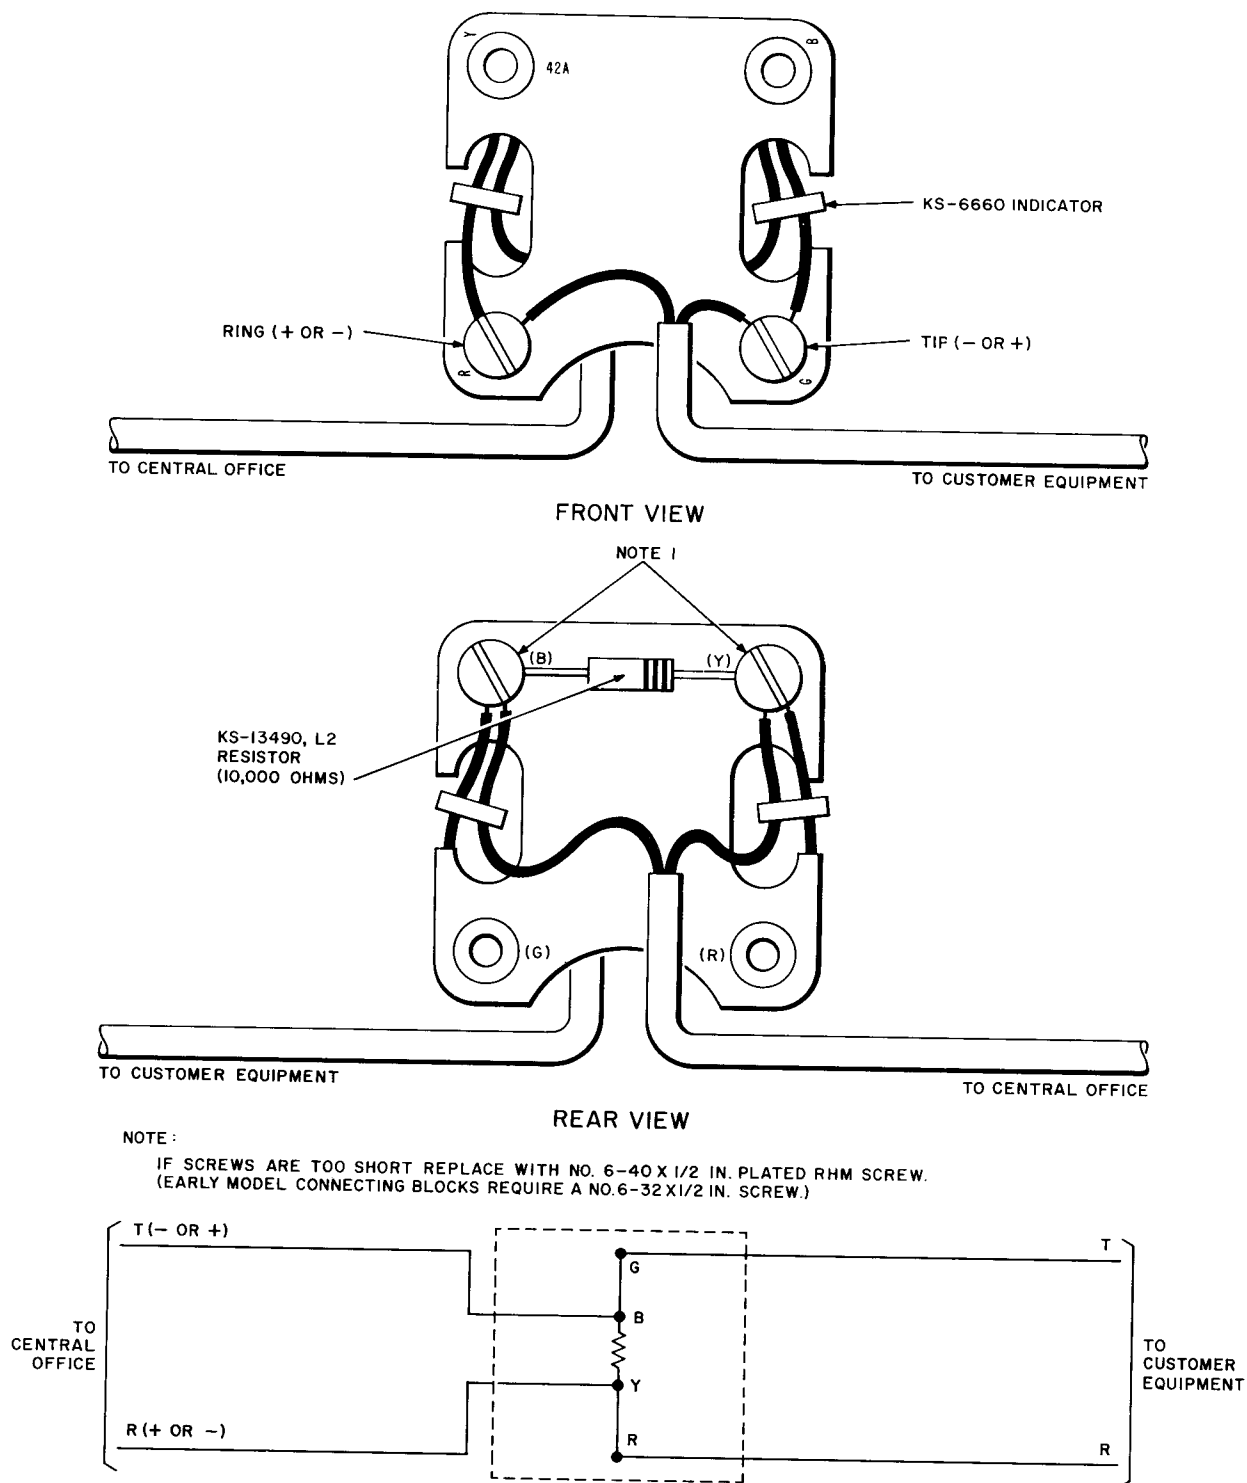

Fig. 1—Radio Program Loop Continuity Indicator
6.02 The radio program loop continuity indicator is mounted on the 42A connecting block used for terminating this type of circuit, see Fig. 1. The connecting block will be considered the line of demarcation between the Telephone Company and customer facilities. It will be identified as described in 6.05(d).